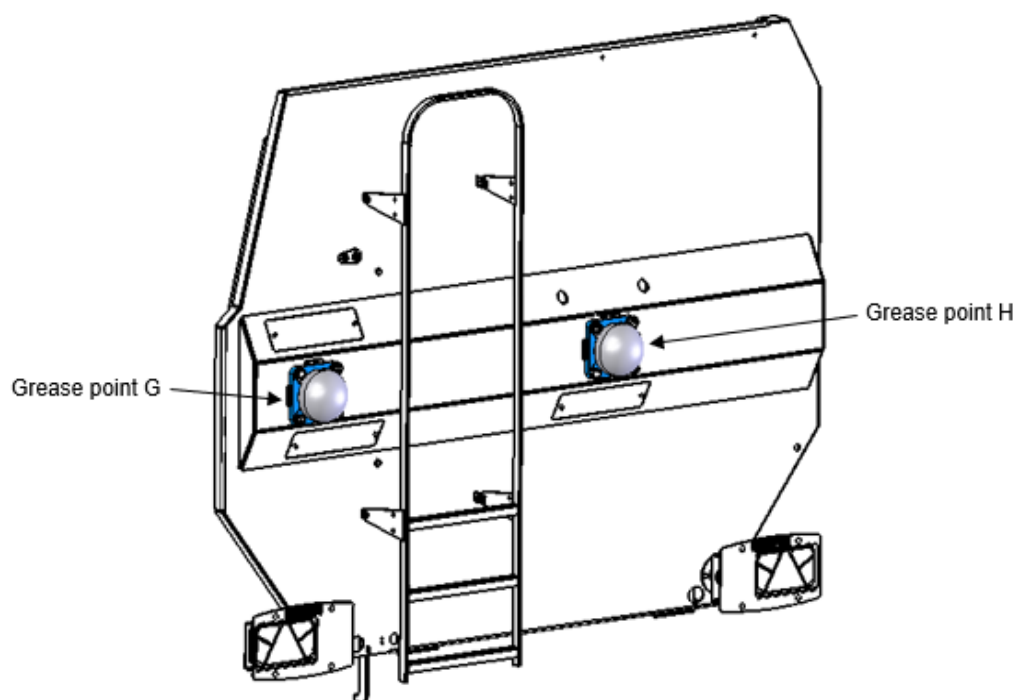

Figure 12: Rear grease points
- d. The two main bearings at the rear of the KEENAN Machine (G & H, figure 12).